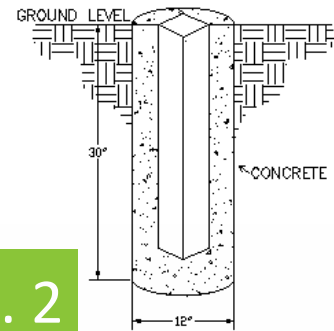

Fig. 2
3. Dig holes for the posts making sure not to disturb the stakes for the string. The string may be removed and replaced after holes are dug. The holes should be approximately 12" in diameter and 30" deep for 3-4 Rail Fence or 23" for 2-Rail Fence (depending on local codes). Holes should be dug so that they allow equal amounts of concrete on all sides of posts (see Fig. 2).